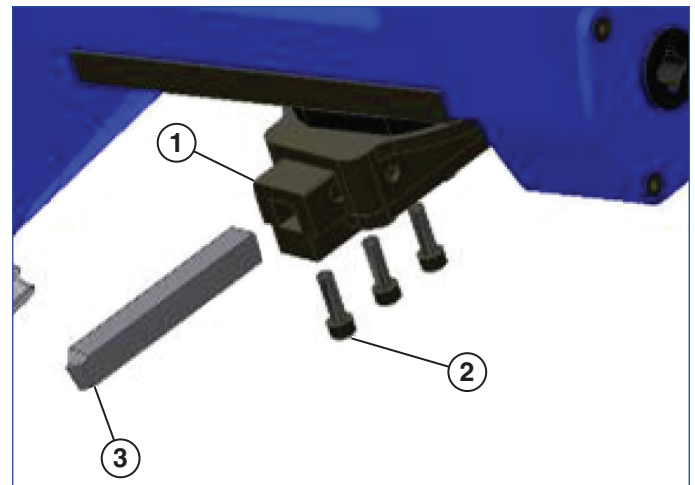

Figure 7
5. Install the tool bit into the tool block (see Figure 7). Make sure the cutting edge is facing away from the tool bit screws. Position the tool bit so approximately 0.5 – 0.75 in. (12.7 – 19.1 mm) of it extends beyond the bottom of the tool block; tighten the three tool bit setscrews.